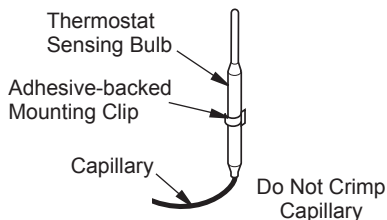

Figure 44 - Positioning the Thermostat Sensing Bulb in the Vertical Position with the Capillary at the Bottom
- The mounting clip must be a minimum of 3" from bottom of fireplace to prevent crimping of capillary. Once you have decided on a location, clean the area thoroughly. Remove the paper backing from the adhesive on back of mounting clip. Press the clip into the new location so that the thermostat sensing bulb will be positioned vertically with the capillary at the bottom (see Figure 44). Slide the thermostat sensing bulb into the clip.